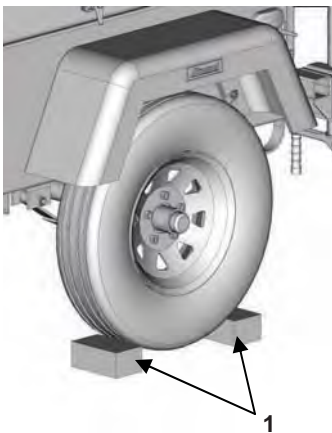

Figure 8
2. Block each wheel on each side with a suitable wheel chock (**Figure 8,1**).